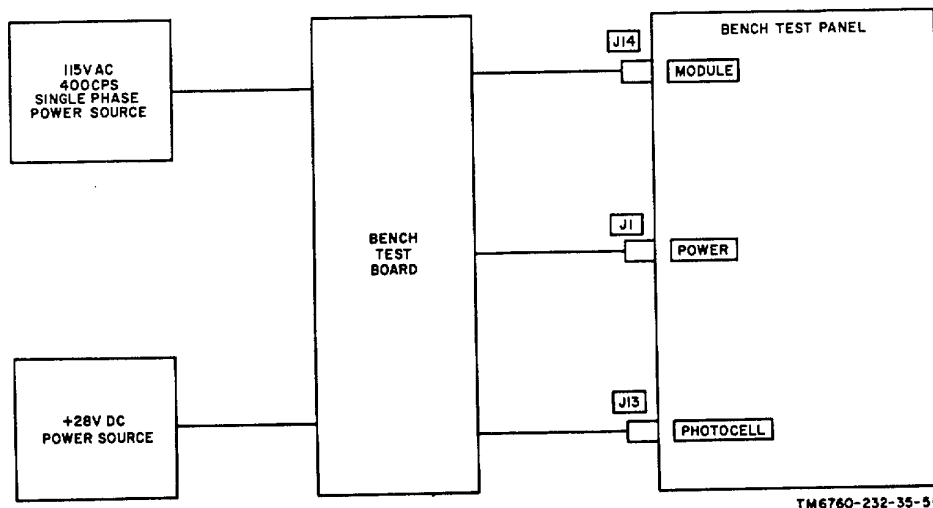

Figure 5-5. MODULE TEST position, operational test setup.
- (1) Test board
- (2) Oscilloscope
(3) Multimeter.
(4) Pulse generator.
(5) 1K resistor.
b. Test Connections and Conditions Connect bench test set to test board as shown in figure 5-5.